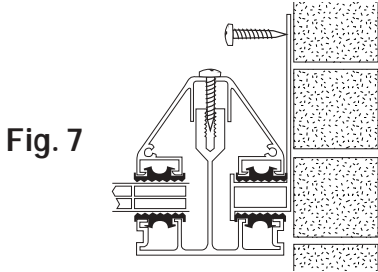

Fig. 7
Step 9: If butting a sheet up to a wall face, simply upturn the side trim profile (Ref. 272/275) (Fig. 7).